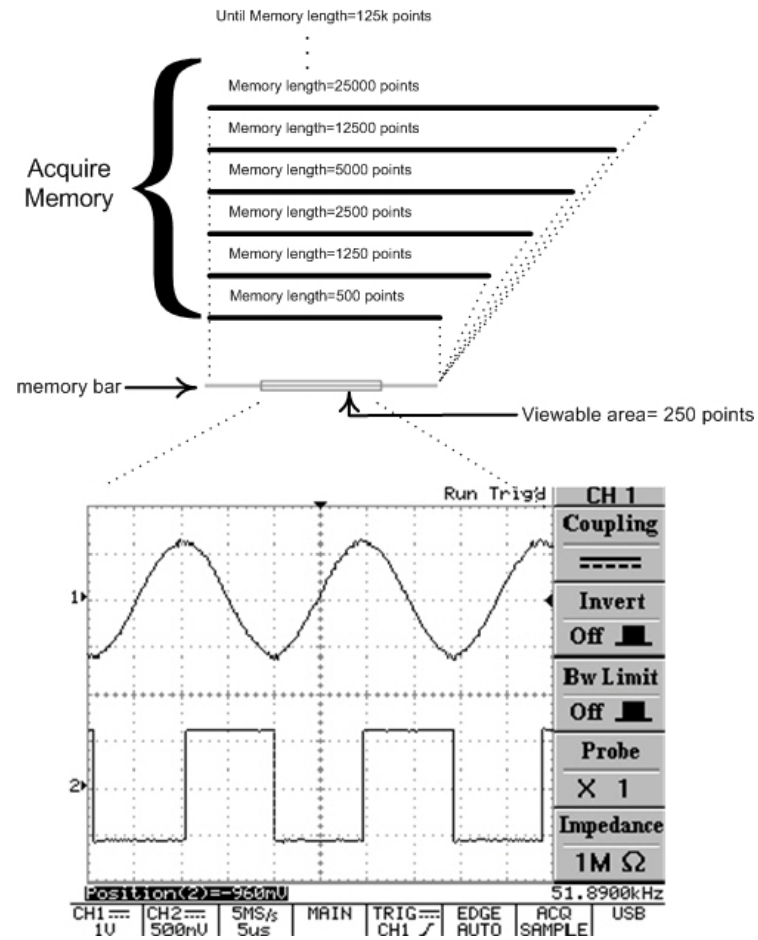

Figure 5-21: The relationship between “memory bar”, “memory length”, and “viewable area (menu on)”
- **Mem Leng**: The number of points that make up the waveform record is defined by record length. This oscilloscope provides record lengths of 500, 1250, 2500, 5000, 12500, 25000, 50000, and 125000 points. For the relationship between memory length, timebase, and sample rate, please refer to Table 5-2. To ensure a full screen display of 500 points on slower timebase ranges, the sample rate is reduced as the timebase is slowed down. The relationship between memory bar, viewable area and memory length setting are shown on Figure 5-21 and 5-22. The memory bar is always indicating the selected memory length, but compressed into 500 points. The screen area will display 250 points with the side menu turned on. If the side menu is turned off, the screen will display 300 points.